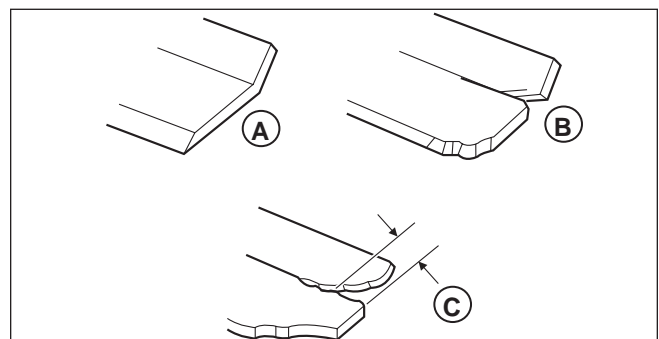

Figure 28. Inspecting the Mower Blade Air Lifts
- The air lifts are excessively eroded (B & C, Figure 28) and the notch (C) is .25" (6,35 mm) deep or greater.